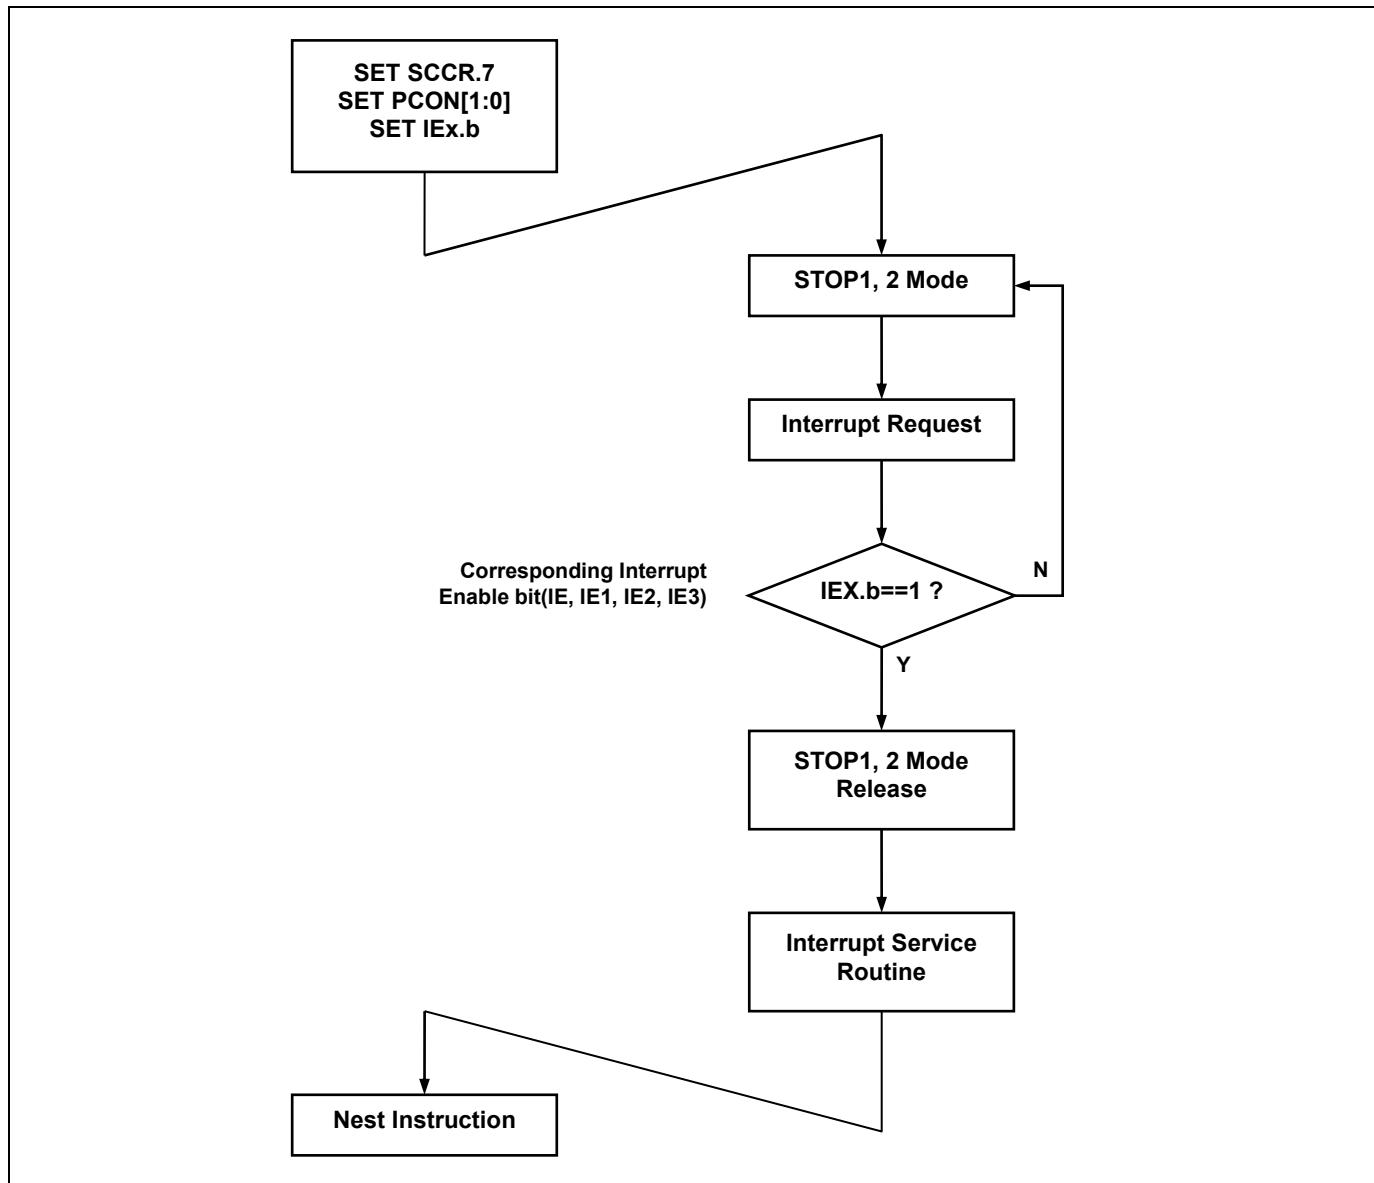

Figure 12.5 STOP1, 2 Mode Release Flow
After STOP1, 2 mode is released, the operation begins according to content of related interrupt register just before STOP1, 2 mode start (Figure 12.5). Interrupt Enable Flag of All (EA) of IE should be set to '1'. Released by only interrupt which each interrupt enable flag = '1', and jump to the relevant interrupt service routine.